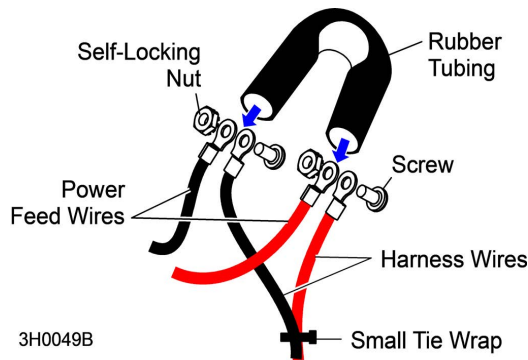

FIG. 1-10
14. Connect the wires that were originally connected to the power feed motor to the long harness with the supplied rubber tubing. See Fig. 1-10.